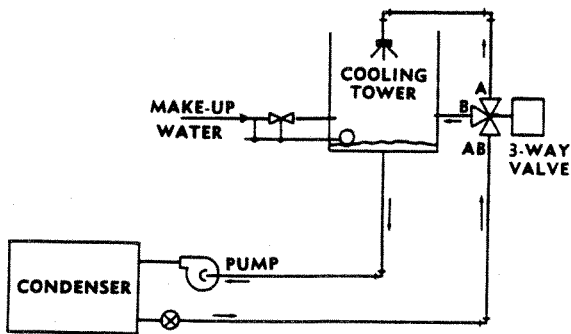

FIG. 3
- C. To maintain constant supply water flow and temperature to a refrigeration condensing-unit heat exchanger. Cool water, from a cooling tower or other source, is mixed with return water from the condenser, as needed, to maintain desired inlet water temperature. Flow remains relatively constant. See Fig. 3.